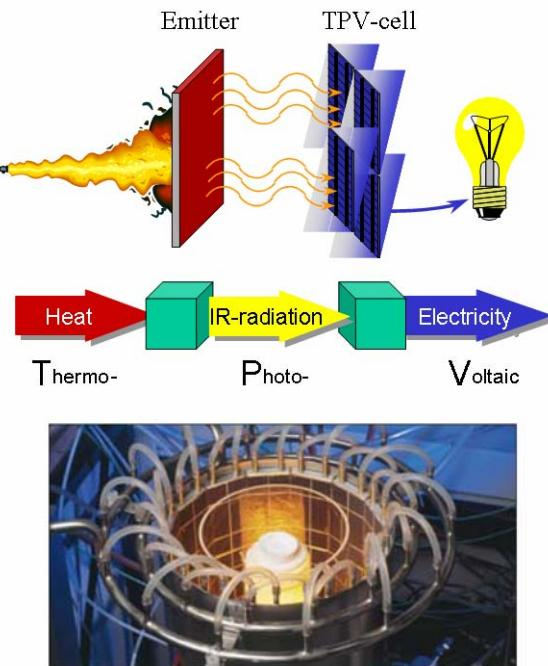

Figure 2-55: Operating principle of a TPV device (Ref. 3), and an image of a prototype system (Ref. 4).
A thermo-photo-voltaic (TPV) cell generates electricity from the combustion of fuel and through radiation (Ref. 1). Figure 2-55 depicts the general operating principle. The fuel burns inside an emitting device that radiates intensely. Photo-voltaic (PV) cells—almost like solar cells—capture the radiation and convert it to electricity. The efficiency of a TPV device ranges from 1% to 20%. In some cases, TPVs are used in heat generators to co-generate electricity, and the efficiency is not so critical. In other cases TPVs are used as electric power sources, for example in automobiles (Ref. 2). In those cases efficiency is a major concern.